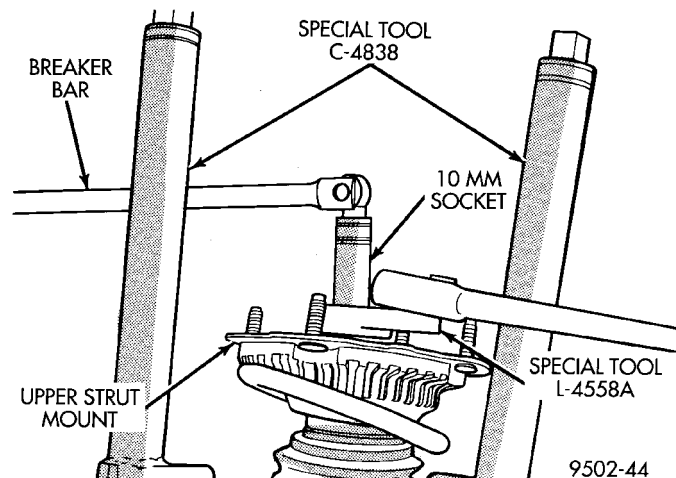
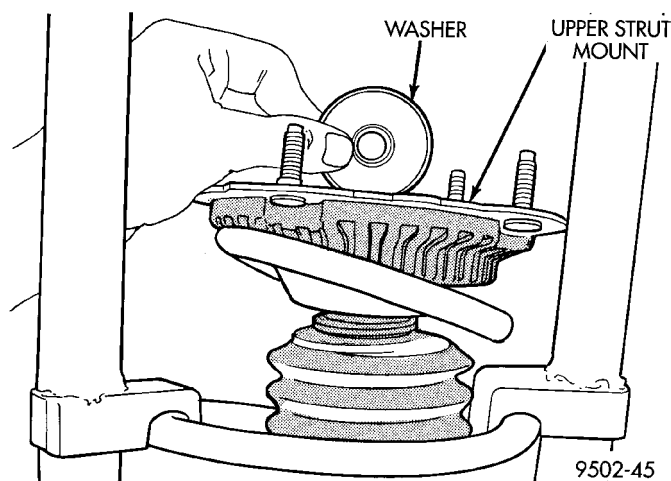

Fig. 27 Removing/Installing Strut Shaft Nut
Fig. 28 Strut Mount Washer
(4) Install Strut Rod Socket, Special Tool, L-4553A or L-4558 on strut shaft nut (Fig. 27). Inserted a 10 mm socket through special tool and onto end of strut shaft (Fig. 27) to keep strut shaft from turning. Remove strut shaft nut from strut shaft.
(5) Remove washer (Fig. 28) between strut shaft nut and upper strut mount and isolator.
- (7) Install the washer on the strut assembly upper mount (Fig. 28). Washer must be installed with the raised edge of the washer facing down.
- (8) Install the upper strut mount to strut shaft retaining nut.
- (9) Using Strut Rod Socket, Special Tool, L-4558A and a 10 mm socket (Fig. 27) to keep strut shaft from turning, torque the strut shaft nut to 61 N·m (45 ft. lbs.).
- (10) Equally loosen the Spring Compressors, Special Tool C-4838 until spring is seated on upper strut mount and all tension is relieved from the spring compressors.
- (11) Install the strut assembly back into the vehicle. Refer to Strut Assembly Removal in Servicing Rear Struts in this section of the service manual.
- (12) Check and reset rear wheel TOE to specifications if required.